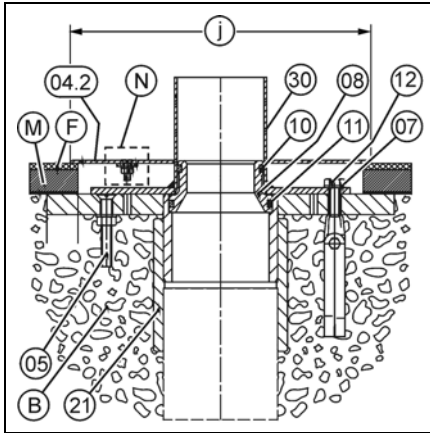
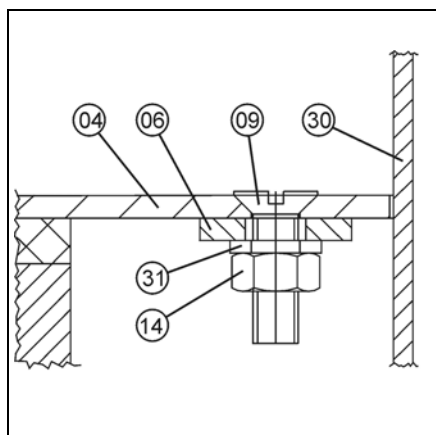
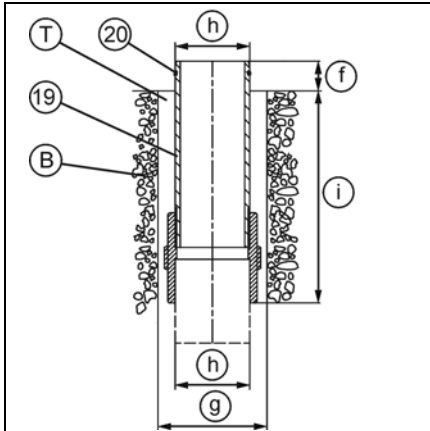
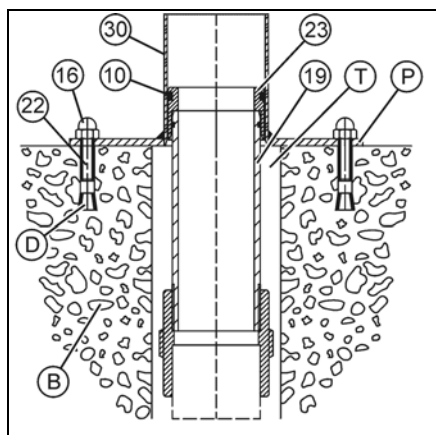

Fig. 18
Fig. 19: N Detail
Fig. 20
Fig. 21: N Detail
See Fig. 18 and Fig. 19.
See Fig. 20 and 21
The installation kit is available in designs for concrete tile pools (01) (Fig.19), concrete liner pools (02) (Fig. 20) and concrete pools with brush-applied sealant (21) (Fig. 21).
Remove the protection film C (Fig. 19) from the installation kit (01).